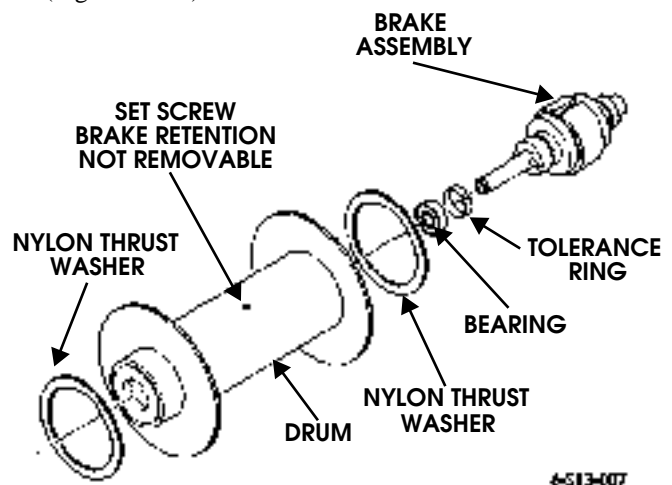

Figure 9-165: Thrust Washers and Brake
10. Remove two nylon thrust washers from drum (Figure 9-165).
12. Push brake through open end of drum and remove (Figure 9-165).